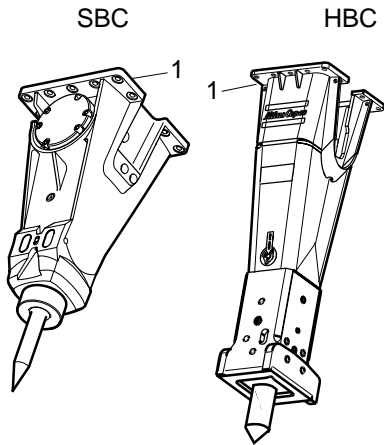

Fig. 1
- Fig. 1 shows the location of the hammer's CE-plate on which the serial no. is given. On SBC hammers the serial no. is also stamped on the adapter plate surface, and on HBC hammers on the return end of the cylinder.